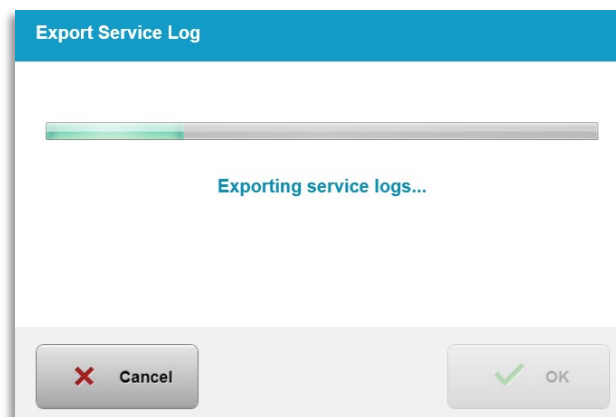

Figure 3-58. Export Service Log in Progress
- The System automatically begins transferring the service log and shows a progress bar of the transfer process as shown in Figure 3-58.